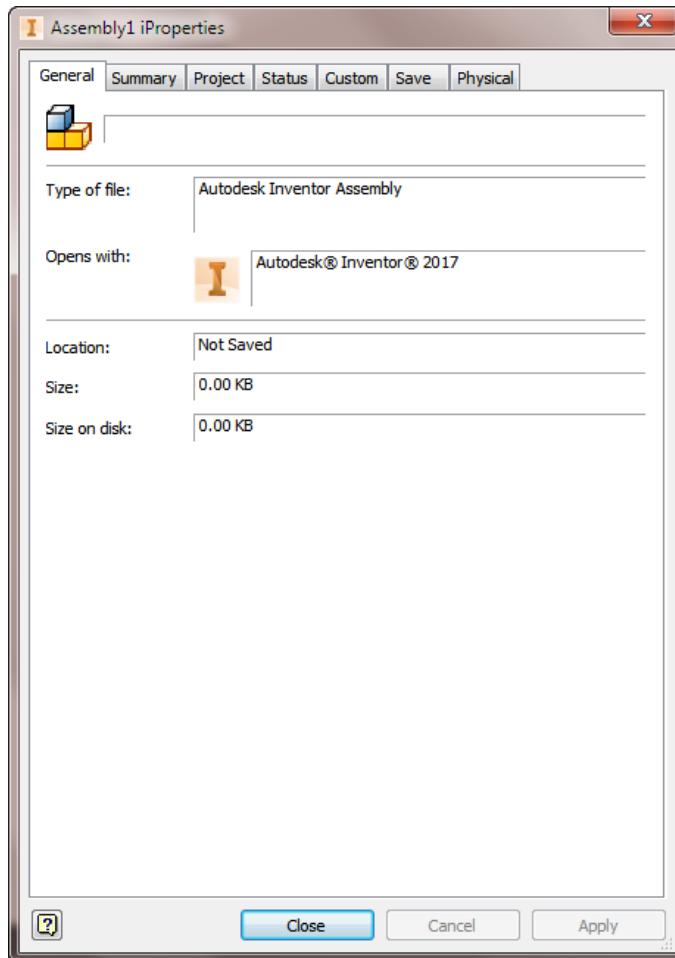

Figure 17-10 The iProperties dialog box
The properties of the component created in the Assembly environment in Autodesk Inventor are known as iProperties. iProperties can be used for creating reports, updating BOM, updating title block, and to display all the related information of the component created. The options of iProperties are internally linked with the related component. Therefore, whenever you update information in iProperties, it will be reflected in the related component. You can invoke this tool by choosing the **iProperties** option from the **File Menu**. Alternatively, right-click on the name of the component in the **Browser Bar** of the current assembly and choose **iProperties** from the shortcut menu displayed; the **iProperties** dialog box of the corresponding component will be displayed, as shown in Figure 17-10. The tabs in this dialog box are discussed next.
*If the component is not saved at any location after it is created then the **iProperties** dialog box displayed will be different from the one shown in Figure 17-10.*